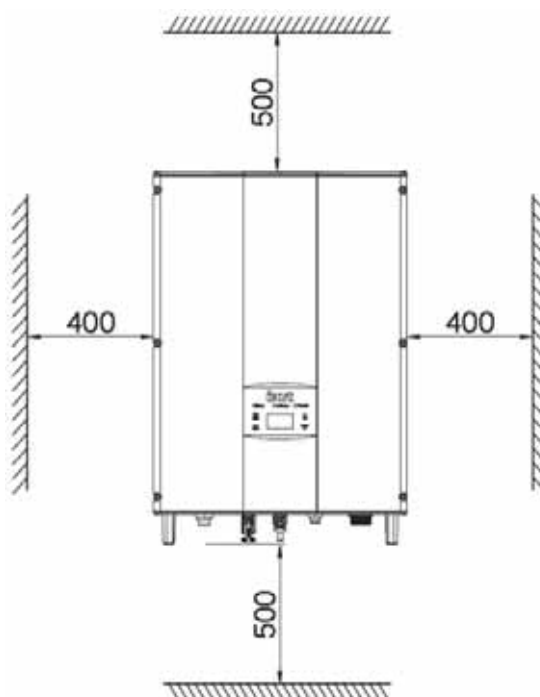
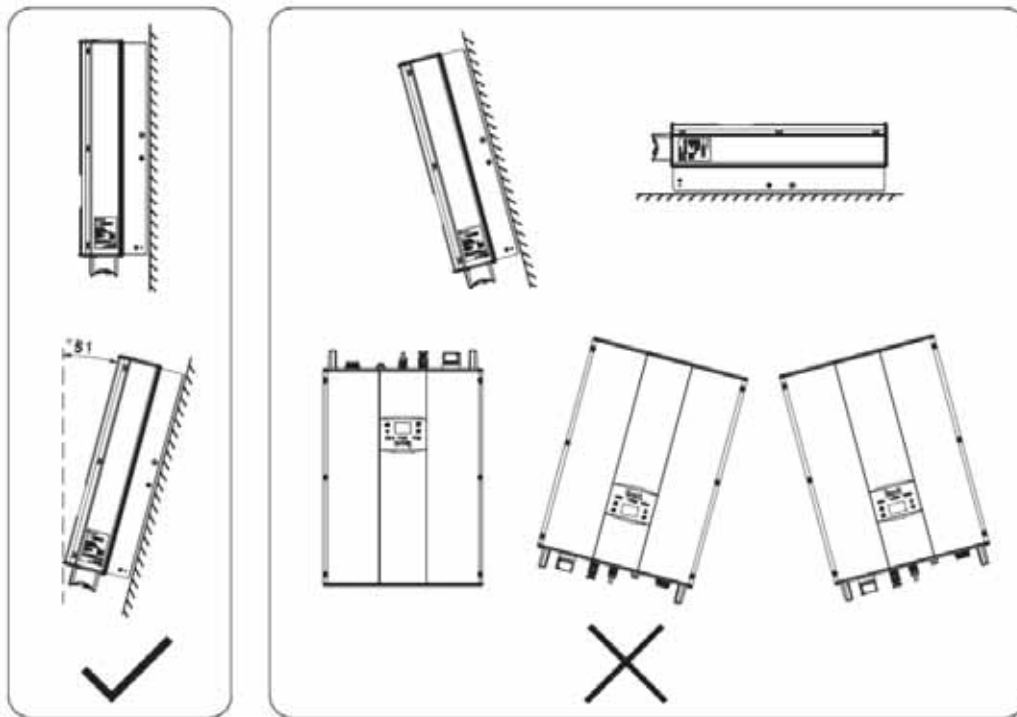

Figure 4.1 Installation space
Figure 4.2 Installation position
- (1) Height from ground level should be enough to ensure that display and status LCD are easy to read.
- (2) Select a well ventilated place sheltered from direct sun radiation and rain.
- (3) Allow sufficient space around the inverter to enable easy installation and removal from the mounting surface. Refer to Figure 4.1.
- (4) The environment temperature is between  $-25^{\circ}\text{C}$  ~  $60^{\circ}\text{C}$ .
- (5) The installation position keeps away from the interface of other electrical devise.
- (6) The inverter needs to be installed on a firm and sturdy surface, such as wall and metal bracket and so on.
- (7) The installation surface should be perpendicular to the horizontal line. Refer to Figure 4.2.
- (8) The installation should be ensure that the inverter is reliably grounded, and the material of grounded metal conductor should be consistent with the metal material reserved for the grounding of the inverter.
Since the installation place can be made by different construction materials, the inverter can be installed by different mounting methods. Take the typical installation environment as the example, the manual describes how to install the inverter on concrete wall. The inverter should be mounted in a vertical position of 90° to the horizontal line as shown in Figure 4.2.